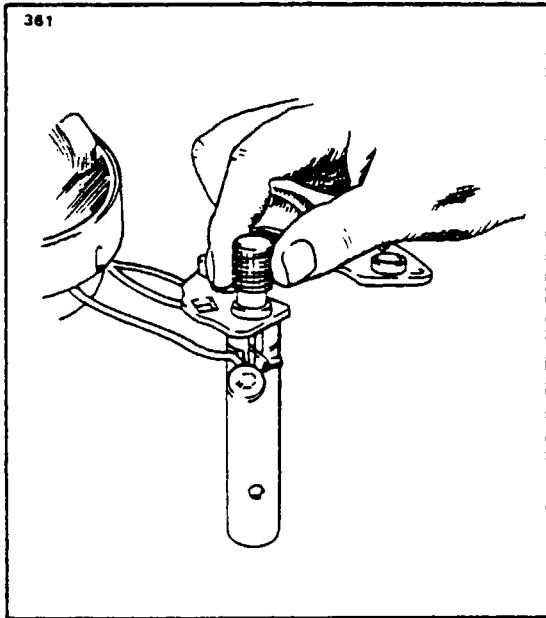

Figure 11-18. Removal of Rectifier
d. Remove the nuts, lock washers, flat washers and insulators from the output and auxiliary terminal studs. Note carefully the correct assembly of the insulator washers and bushings. Using the special tools shown in Figure 11-18, support the end head and press out the three negative rectifiers. The end head can now be separated from the stator assembly.